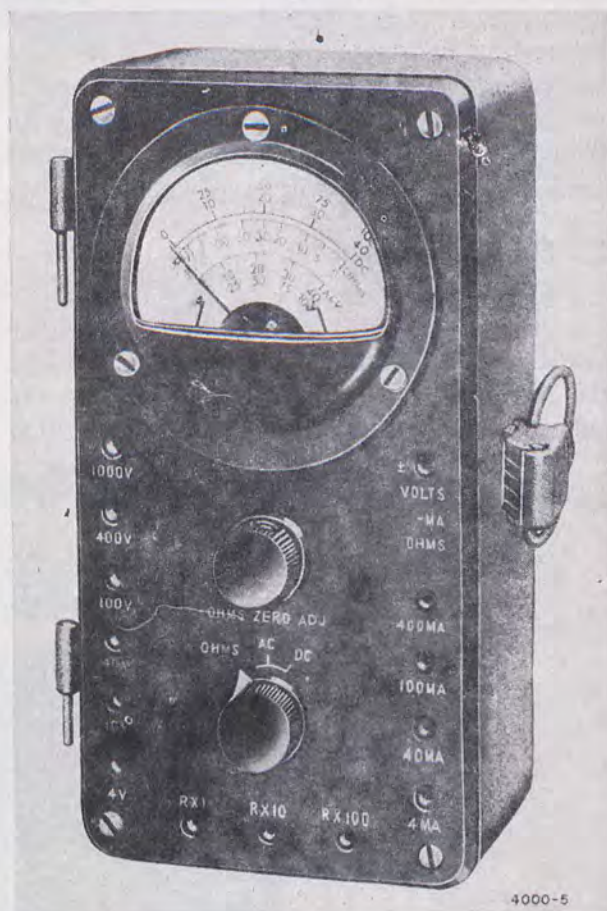

Figure 11. Pocket-type multimeter.
21. Pocket-Type Multimeter (fig. 11)